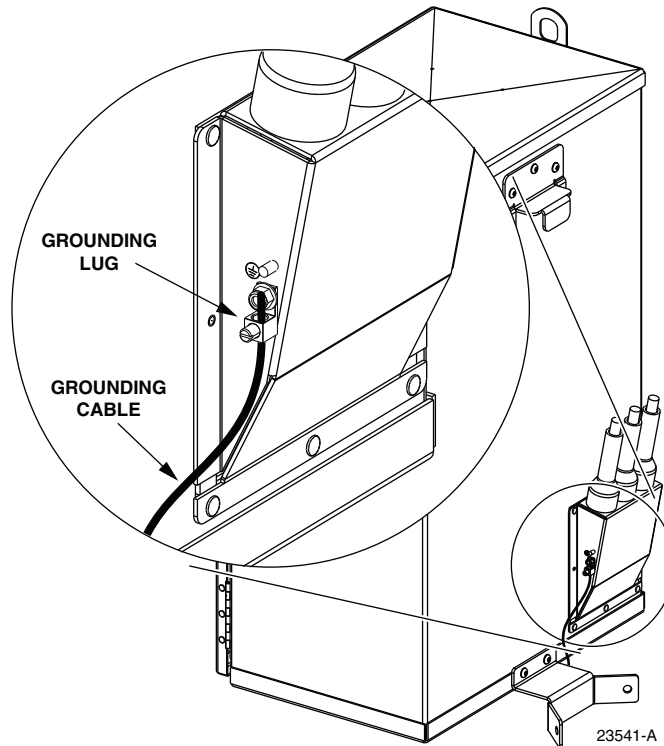

Figure 6. Grounding Cable Connection To Pole-Mount Cabinet
14. Insert the end of the grounding wire into the cabinet grounding lug as shown in Figure 6. The grounding lug can be used for #6 – #14 AWG wire.